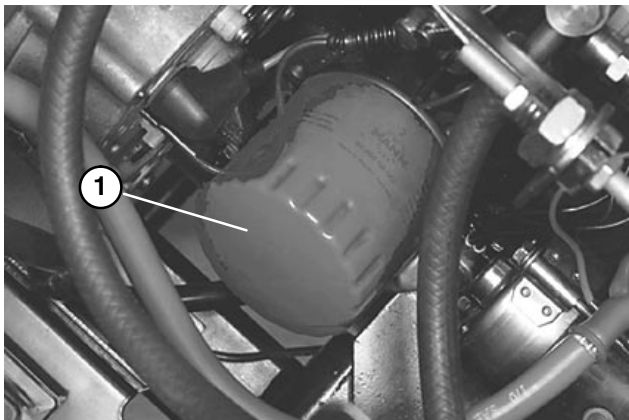

Figure 31
2. Remove oil filter (Fig. 31). Apply a light coat of clean oil to the new filter seal before screwing it on. DO NOT OVER-TIGHTEN.